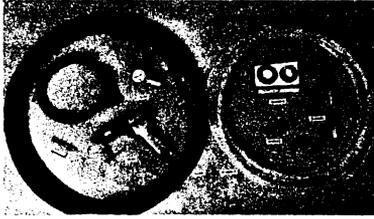

FIGURE 2
2.03 Other tools required are: (see Figure 2) a G-30 Mini-Inline Regulator, a G41 3/8" Air drill, A G-42 3/8" Drill Bit with Stop, a 3" circular wire brush, a G-49 25' Quick Change Hose, and a G-51 5' Quick Change Hose. Replacement parts are: special adapter fittings (G-9642), 1/2" nylon tubing (G-810-7), No. 4, No. 5 injection or vent assembly (G-9644), and pump replacement packing kits (G-810-8).